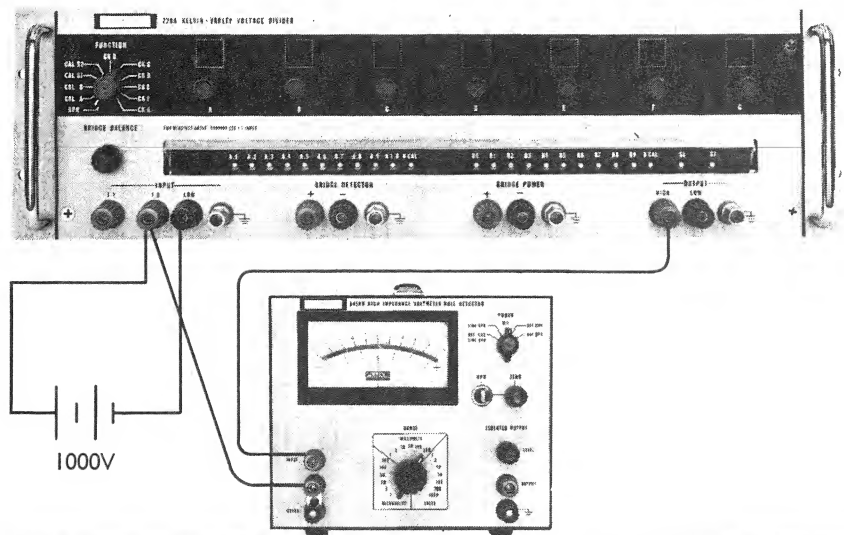

Figure 2-5. CONNECTIONS FOR DETERMINING END ERRORS
- a. Connect the equipment as shown in Figure 2-5 (A).
- d. Connect the equipment shown in Figure 2-5 (B).
- g. Connect the equipment as shown in Figure 2-5 (C).
- j. Maintain the test set up of Figure 2-5 (C) except move the two leads connected to the 1.0 INPUT terminal to the 1.1 INPUT terminal.